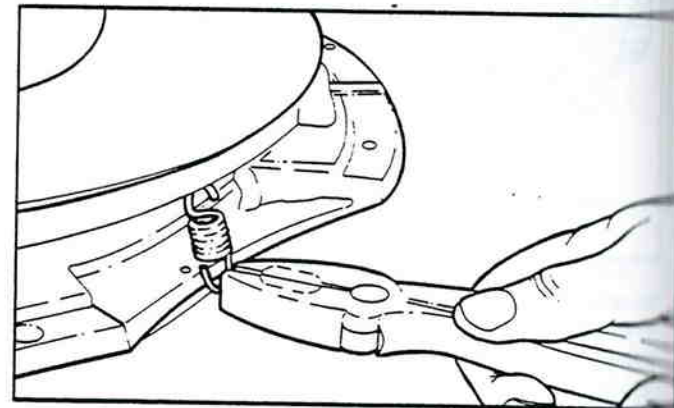

Figure 5-25. Install Return Springs.
12. Install return springs (B-2) as shown. Make sure they are completely seated in hole (figure 5-25). Springs are to be hooked from inside of pressure plate first. Then hook opposite end from outside of flywheel ring.